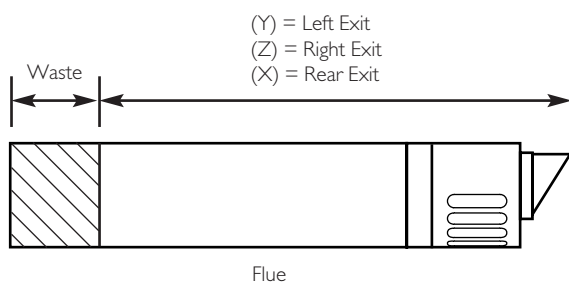

Fig. 28
3. Take the flue and mark off (X) from the terminal end as indicated in the diagram (Fig. 28).
5. Take the flue and mark off (Y) from the terminal end as indicated (Fig. 28).
6. **For right hand exit** - measure the distance from the edge of the support bracket to the inner face of the wall and to this dimension add the wall thickness + 343mm. This dimension to be known as (Z).
7. Take the flue and mark off (Z) from the terminal end as indicated (Fig. 28).